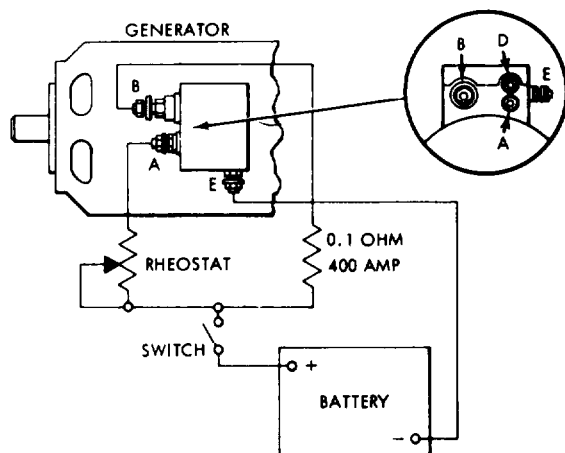

Figure 5-16. Electrical test setup for brush run-in.
- j. Position fan (21) and fan washer (45) to support and secure to shaft or armature with fan inner nut (46) and fan outer nut (47)
- k. Position fan cover (25) to generator housing and secure with 12 washers (22), screws (23), and new lockwire (24) between each two screws.
- l. Install brush cover band (15) on generator housing.
- m. Position ground strap (32) to inside of radio-noise suppression filter housing (13) and secure with screw (33), three washers (5), and two nuts (4).
- n. Position one-pole capacitor (31) to filter housing and secure with two screws (11).
- o. Position two-pole capacitor (3) to filter housing and secure with two screws (11).
- p. Position filter housing to generator housing and secure with four washers (12) and screws (10).
- q. Connect ground strap (32) and one-pole capacitor (31) to generator terminals (34) with two screws (6), washers (29), and nuts (30).
- r. Connect circuit A lead (35) and circuit D lead (36) to two-pole capacitor (3) with two washers (2) and nuts (1).
- s. Secure filter housing cover (7) to housing (13) with eight washers (8) and screws (9).
**5-25. Run-In of Generator Brush (fig. 5-16).**